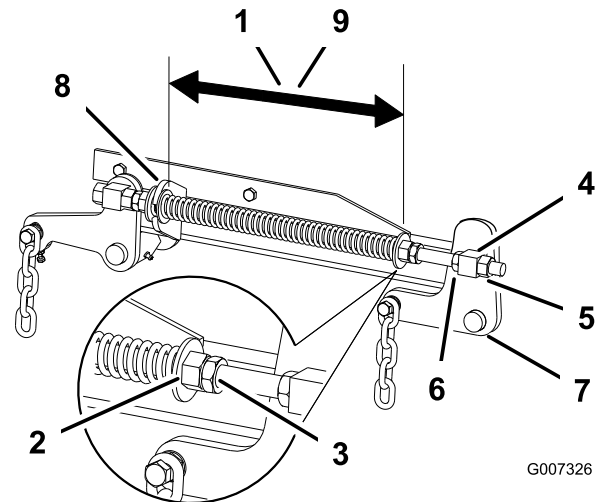

Figure 64
- Check the distance between the two large washers, it needs to be 11-1/8 inches (28.2 cm) for 52 inch mower decks and 10-1/2 inches (26.7 cm) for 60 inch mower decks (Figure 64).
- Adjust this distance, by loosening the spring jam nut and turning the nut in front of each spring (Figure 64). Turning the nut clockwise will shorten the spring; counter-clockwise will lengthen the spring.
- Lock the nut into position by tightening the spring jam nut (Figure 64).